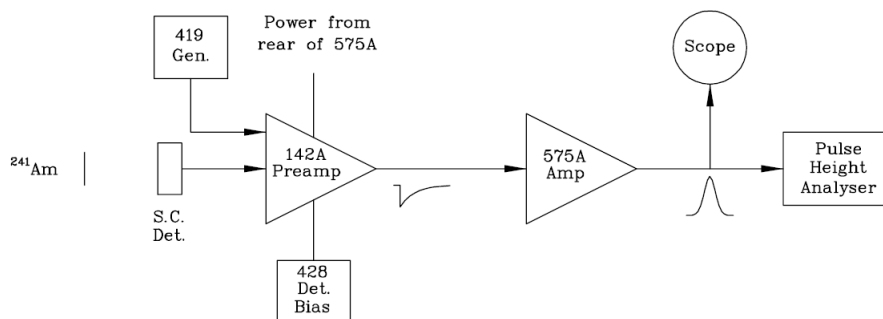

Figure 1: Experimental setup for the semiconductor detector.
Schematics of the two required circuits are shown in Figs. 1 and 3. It is important that you gain an understanding of the physics behind the different boxes in these diagrams.
- (2) Ensure that the electronics are connected up as shown in Fig. 1.